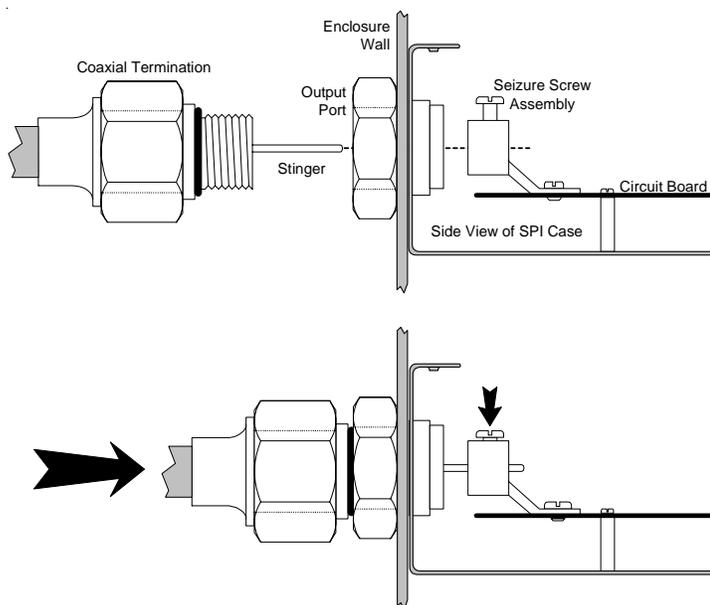

Fig. 3-6 Connecting COAX to SPI Output Port
3. Insert the Coaxial Termination into the output port on the bottom of the SPI. Verify the stinger goes through the Seizure Screw Assembly. Tighten the Coaxial Termination (Fig. 3-6).